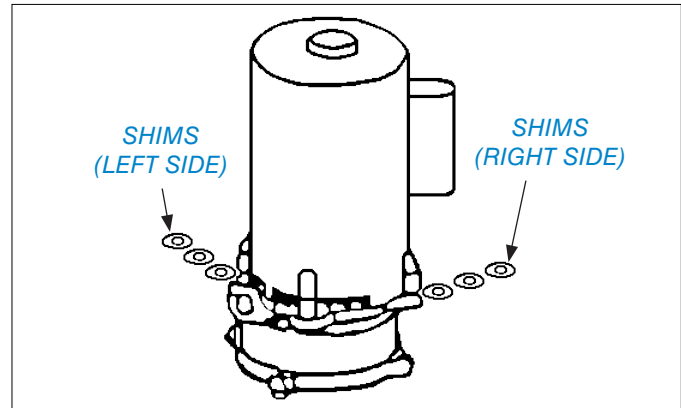

FIGURE 15. SLIDE SHIMS BETWEEN HOUSING AND MOTOR
2. Slide other shims of various sizes diagonally across from the corner in Step 1 until the impeller is snug with the housing (FIGURE 15).